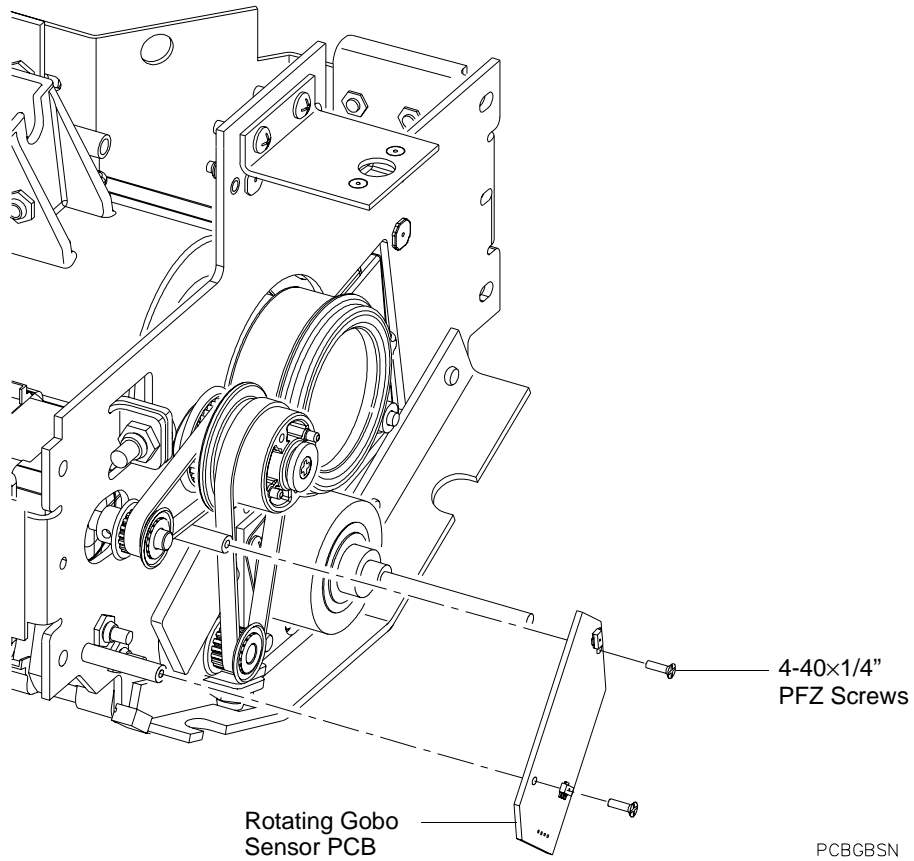

Figure 2-10: Rotating Gobo Sensor PCB Replacement
Step 4. Remove rotating gobo sensor PCB by removing two 4-40×1/4" PFZ screws. **Figure 2-10.**